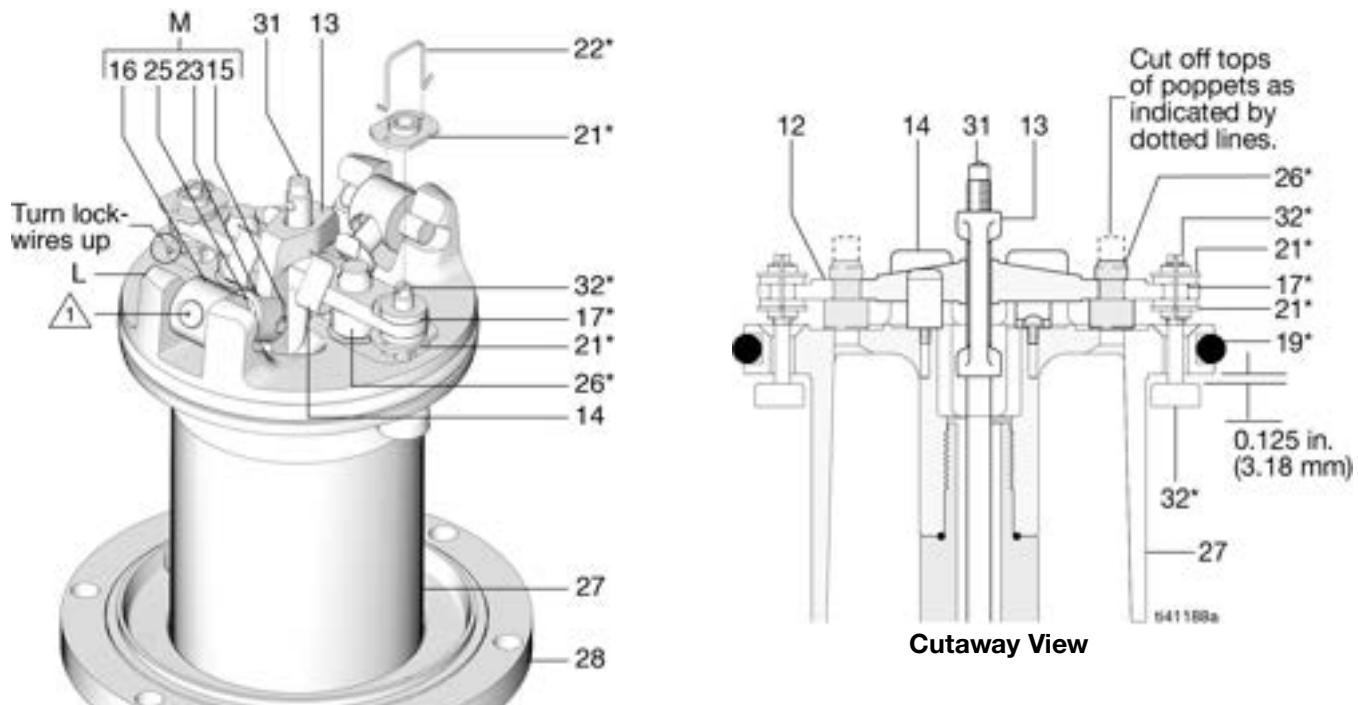

FIG. 4 Air Motor and Throat
To reduce the risk of pinching or amputation of fingers, keep fingers clear of the toggle assemblies when snapping the toggles (M in FIG. 4) up or down.
- Using a screwdriver, push down on the trip rod yoke (13), and snap the toggles down (FIG. 4).
- For this step, while prying with the screwdriver with one hand, cover the toggle assemblies with the other hand to catch the spring-loaded toggle assemblies as they snap out of the lugs. Place the tip of the screwdriver into the piston between the piston lugs (L) below the pivot pins (16) on the toggles, pry up using the screwdriver handle to compress the springs on the toggle assembly (M) up and away from the piston lugs, and remove the parts (FIG. 4).
- Straighten the lock wires (22*) and remove them from the valve nuts (21*). Screw the top nuts off. Remove the trip rod yoke (13), actuator (12), and trip rod (31). Unscrew the bottom nuts (21*) and remove the poppets. Make sure the valve bar spring clips (14) are not worn or damaged, and that they properly guide the actuator (12).
- Remove the exhaust valve poppets (26) by cutting them with a side cutter, then pull them out of the actuator (12).
1. Place the piston rod (29) flats in the vise with the air motor facing up.
2. Pull the exhaust valve poppets (26*) into the valve actuator (12), and clip off the top parts of the poppets (shown with dotted lines in the **Cutaway View**, FIG. 4).
3. Install the grommets (17*) in the actuator (12), place the inlet valve poppets (32*) in the piston, and thread the bottom valve nuts (21*) onto the inlet valve poppets until there are a few threads left before the threads run out.
6. Install the toggle pins (15) in the yoke (13), place the toggle arm (23) ends of the toggle assembly (M) onto the toggle pins, and snap the pivot pin (16) ends of the toggle assembly into the lugs (L).
7. Measuring with the gauge (Part No. 171818), create 0.125 in. (3.18 mm) of clearance between the inlet valve poppets (32*) and the piston seat when the inlet valve is open. See the **Cutaway View** in FIG. 4.